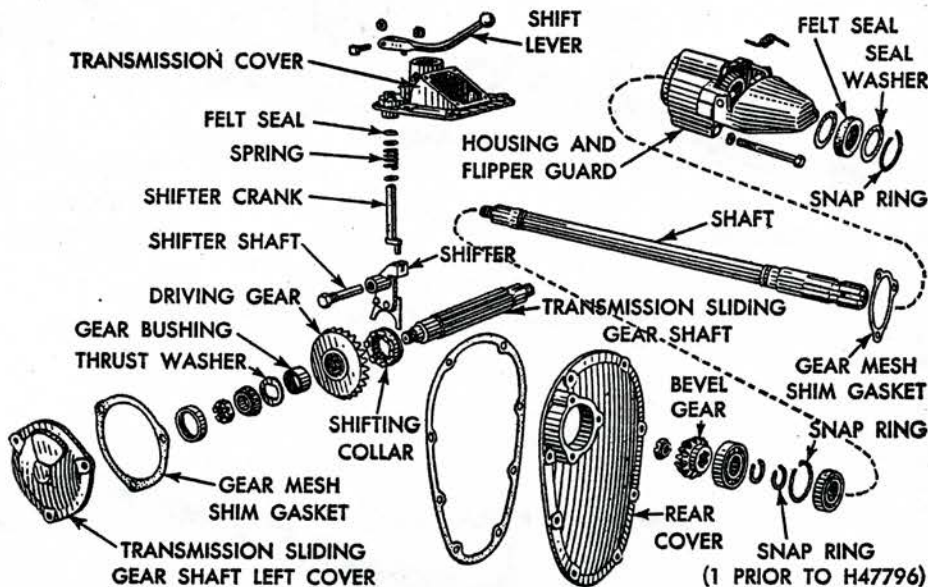

Fig. 59 Layout of P.T.O. drive. Series H
**DISASSEMBLE**—Fig. 59. Take off power shaft rear bearing housing and pull out driven shaft, bearings and gear. Remove sliding gear shaft left bearing housing and take off driving gear and related parts.